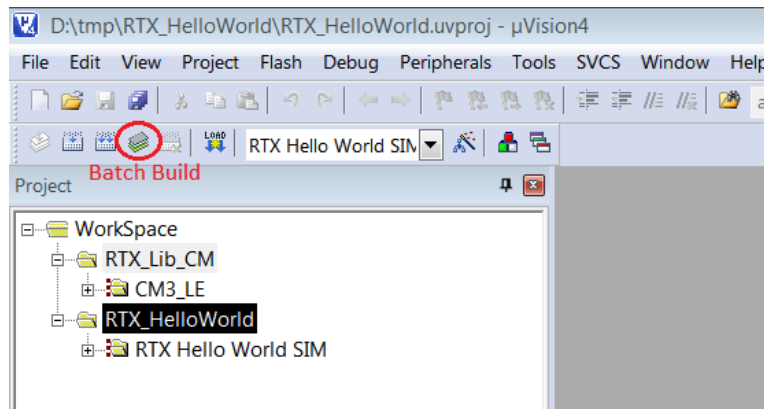

Figure 2.23: Keil IDE: Workspace with Two Projects
4. Two projects appear under the Project Window (see Figure 2.23. Click the Batch Build button (see Figure 2.23 to bring up the Batch Build window.